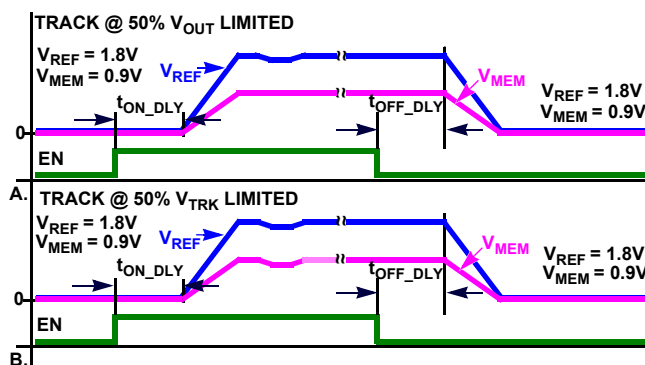

FIGURE 20. RATIOMETRIC TRACKING
- a. Track at 50% VOUT limited. Member rail tracks the reference rail and stops when the member reaches 50% of the target voltage, Figure 20 (A).
- b. Track at 50% VTRK limited. Member rail tracks the reference at the instantaneous voltage value applied to the VTRK pin until the member rail reaches 50% of the reference rail voltage, or if the member is configured to less than 50% of the reference the member will achieve its configured target, Figure 20 (B).
Tracking Configuration Figure 20 (A)
Tracking Configuration Figure 20 (B)